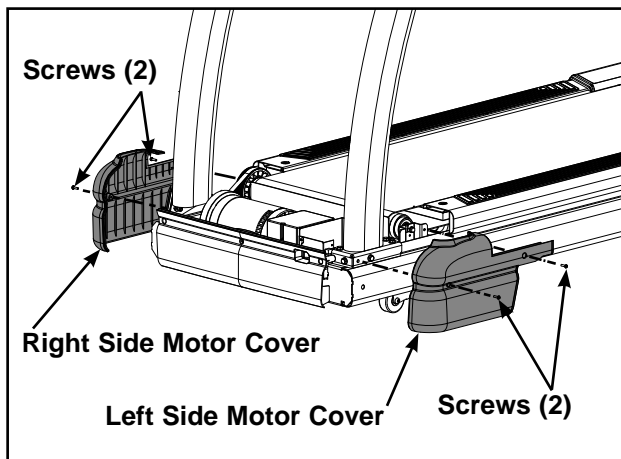

Figure 8
- C. Using a Phillips screwdriver, remove the four screws securing each motor cover side (left and right). See Figure 8.